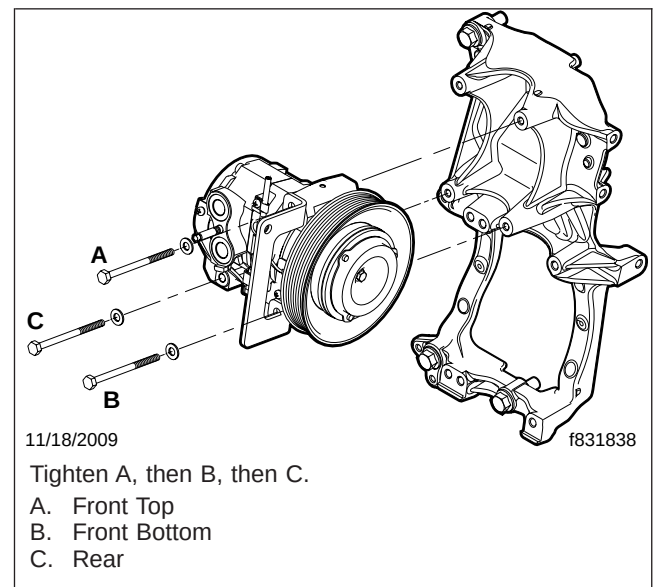

Fig. 1, Tightening Sequence (typical installation shown)
2. Position the compressor on the mounting bracket and install the capscrews and washers. Tighten 15 to 19 lbf·ft (21 to 26 N·m) in the sequence shown in **Fig. 1**.